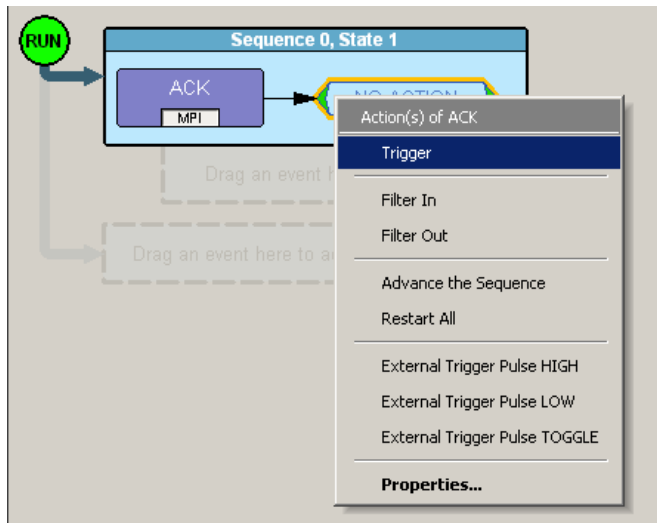

Figure 12.28 Example 1: Assigning the Action
Step 4 Right-click the button. From the Action pop-up menu, select **Trigger** (Figure 12.28).